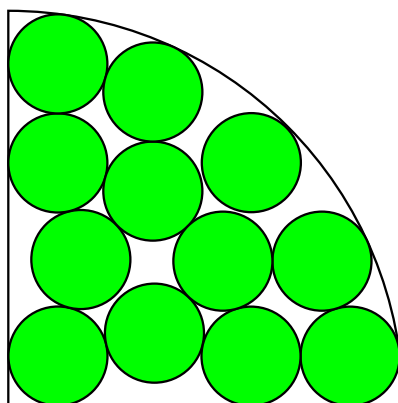

Figure 2: Optimal packing of 12 disks in a circular quadrant.
**Problem 2:** Now we will pack disks of equal radius into a circular quadrant. In Figure 2 we show an arrangement of 12 disks giving density  $d = 0.7553$  and this is probably very close to optimal. In fact, 12 is the least number of disks needed to reach a 75% density. The second problem is to determine  $N(0.80)$ , i.e., the *least* number  $n$  of disks needed to obtain a packing with density  $d \geq 0.80$ . Show the packing in a figure.